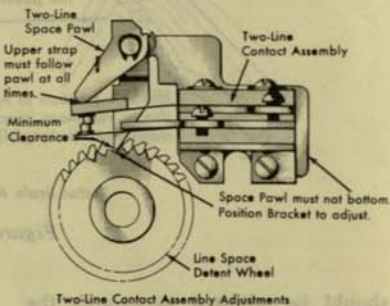

Figure 32
Adjust the contact assembly and straps so that the contact opens at the end of two line spaces. Adjust the two-line space pawl so that it does not bottom in the line space detent ratchet. The upper contact strap must follow the pawl at all times; adjust the tension for the correct operation. This is important (Figure 32).
13. Two-Line Contact (Figure 32).